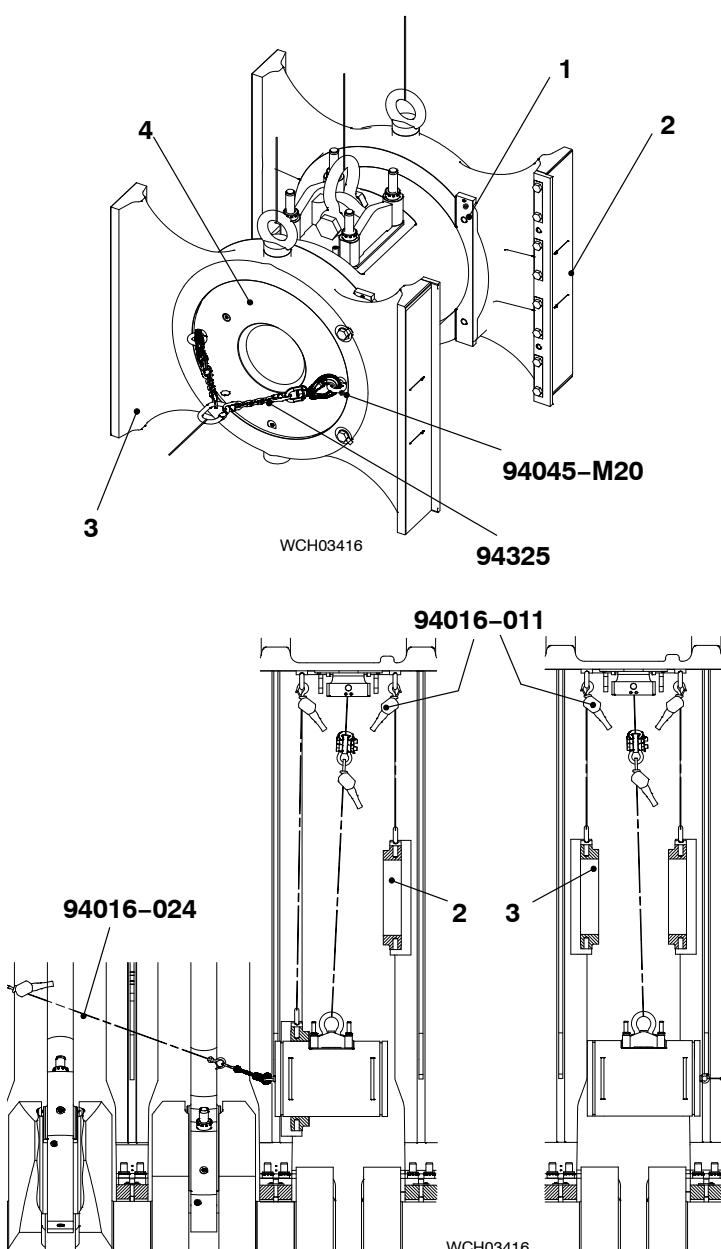

Fig. 5
- 25) Remove the two bolts, tab washers and holding plates (1, Fig. 5) from the from the guide shoe (2).
- 26) Attach the two eye bolts (94045-M20) and the the chain (94325) to the crosshead pin (4).
- 29) Operate the manual ratchet (94016-024) to pull the crosshead pin (4) until the guide shoe (2 or 3) is clear.
- 32) Attach the eye bolts (94045-M20), chain (94325), eye bolt (94045-M24) and manual ratchet (94016-024) to the other side of the crosshead pin (4).
- 34) When the crosshead (4) is in the first or last cylinder position, do step 35) to step 41).
- 2) Operate the manual ratchet (94016-011, Fig 5) to lower the guide shoe (2) to the door frame.